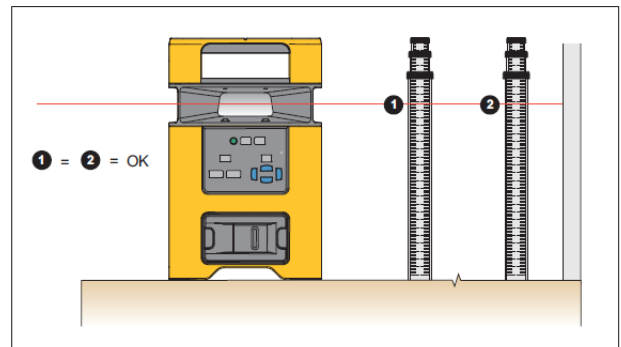

Figure 6. Level of Existing Item
2. Measure the distance from the item to the laser. See Figure 6.